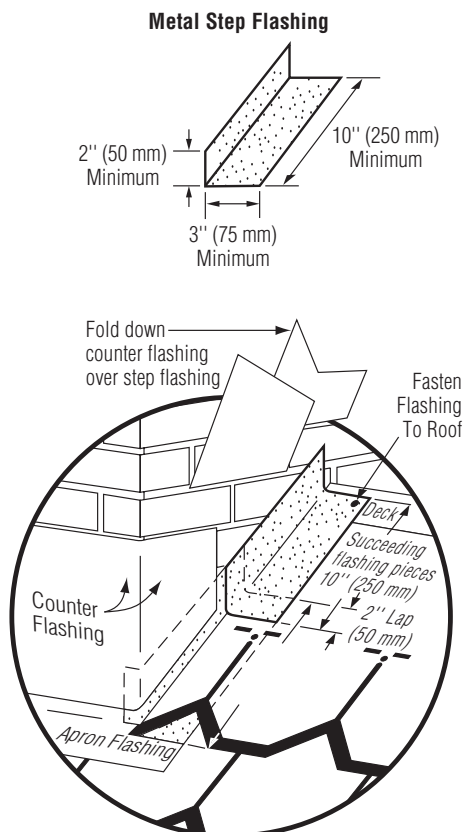

Figure 17-14: Metal step flashing for Carriage House.
**INSTALLING STEP FLASHING:** Use 10" by 5" corrosion-resistant metal such as copper. For the first course of Carriage House only, use a 12" by 5" piece of metal flashing (Figure 17-14).